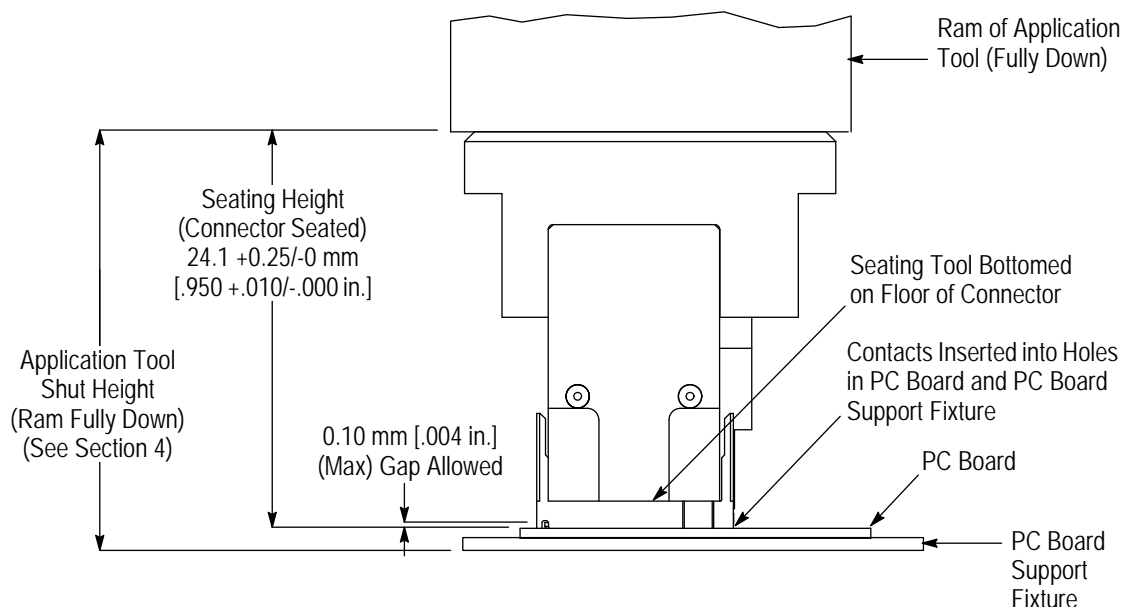

Figure 2
Set the seating height to the dimension shown in Figure 2 (application tool shut height will equal the
5. INSERTION (See Figure 2)
- b. the connector is seated on the pc board with the seating height-measured from the top of the connector to the top of the pc board-given in Figure 2